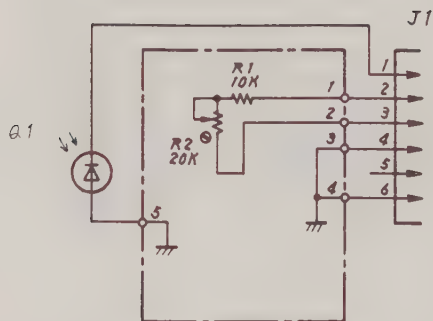

Fig. 6-12 Circuit Diagram of
- Fig. 6-12 : Circuit Diagram of MA98A Optical Power Sensor.